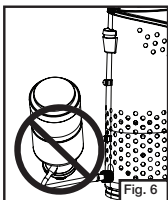

Fig. 6
- Never operate coffeemaker with propane cylinder in an inverted position. (Fig. 6)